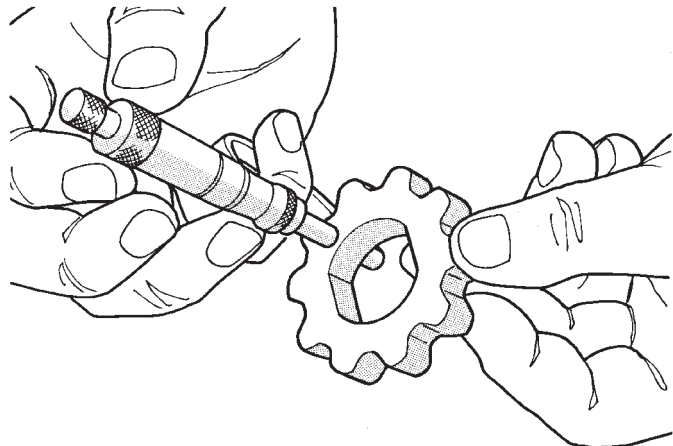

Fig. 95 Measuring Inner Rotor Thickness
(4) If inner rotor measures 9.474 mm (0.373 inch.) or less replace inner rotor (Fig. 95).